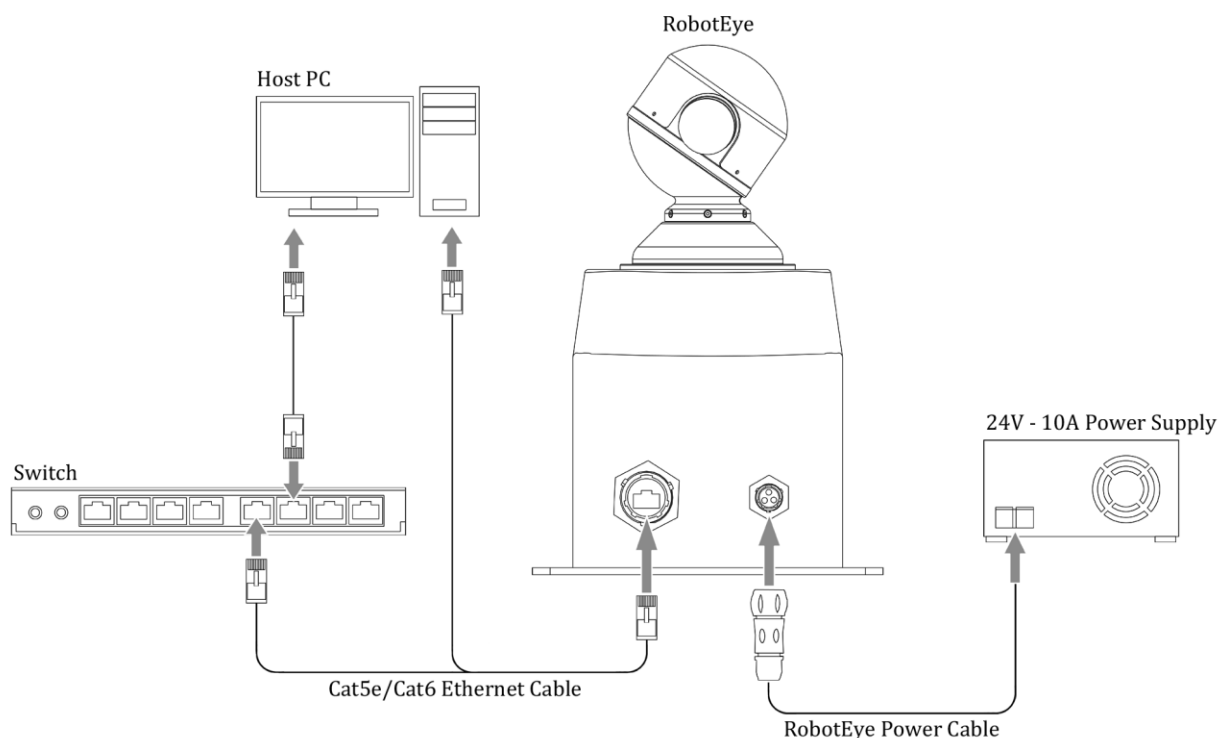

Figure 2.3 Wiring and connections for the RobotEye
1. Connect one end of the Ethernet cable to the network port on the PC or switch. Connect the other end to the RE05 Ethernet port. Refer to Figure 2.3